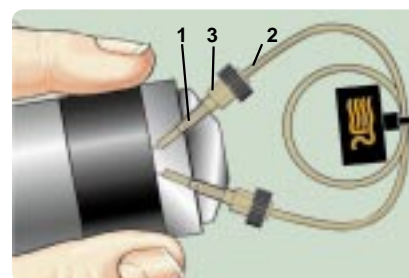

Fig. 7
of the ferrule (1) is squeezed down onto the tube (2) by the mating conical surface in the nut (3). See Fig. 7. The nut and ferrule can both be reused many times. Unlike ordinary fittings, the unique RheFlex PEEK design, specifically the angles and surface contact between the ferrule and nut, prevents the nut from gripping the ferrule and twists both the ferrule and the tube during tightening. Otherwise, such twisting stresses the PEEK tubing and lowers the pressure rating of the tubing.